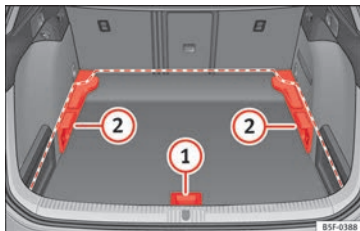
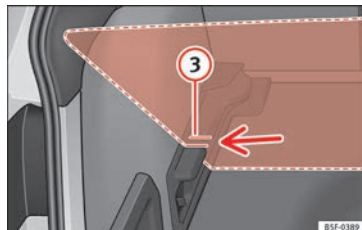

Fig. 158 Luggage compartment variable floor: positions.
Fig. 159 Luggage compartment variable floor: grooves tilted.
- Lift the floor using handle » Fig. 158 ① and pull it back until the front of the floor has fully passed the supports ②.
- Move the floor forward over the supports as far as the rear seat backrest and then lower the floor with the handle ①.
- Now match the front part with the lower grooves of the supports and slide the floor forwards as far as the rear seat backrest and lower the floor at the same time with the handle ①.
- Lift the variable floor using handle »» Fig. 158 ① and pull it back until the front of the floor has fully passed the tilted grooves »» Fig. 159 ③.
- Pass the floor through these slots using the handle ①, pushing until the movable front of the variable floor folds and rests on the floor itself.
- Lift the variable floor by the handle »» Fig. 158 ① and pull it back a little.
- Push the variable floor towards the folded rear seats with the handle ① using some downward pressure so that the moving part of the floor is flush with the backs of the rear seats.